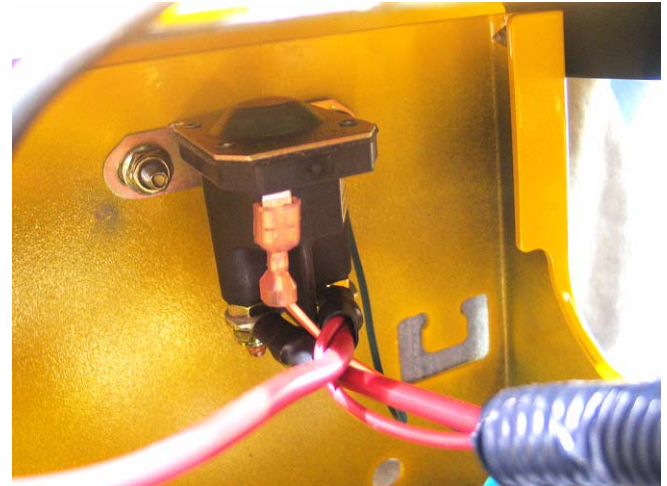

Figure 39.8
39.8. On the 1000 series tractors the **starter solenoid** is mounted at the left rear corner of the frame. The mounting bracket is visible beneath the left fender, and the solenoid itself is accessibly by removing the battery. See Figure 39.8.